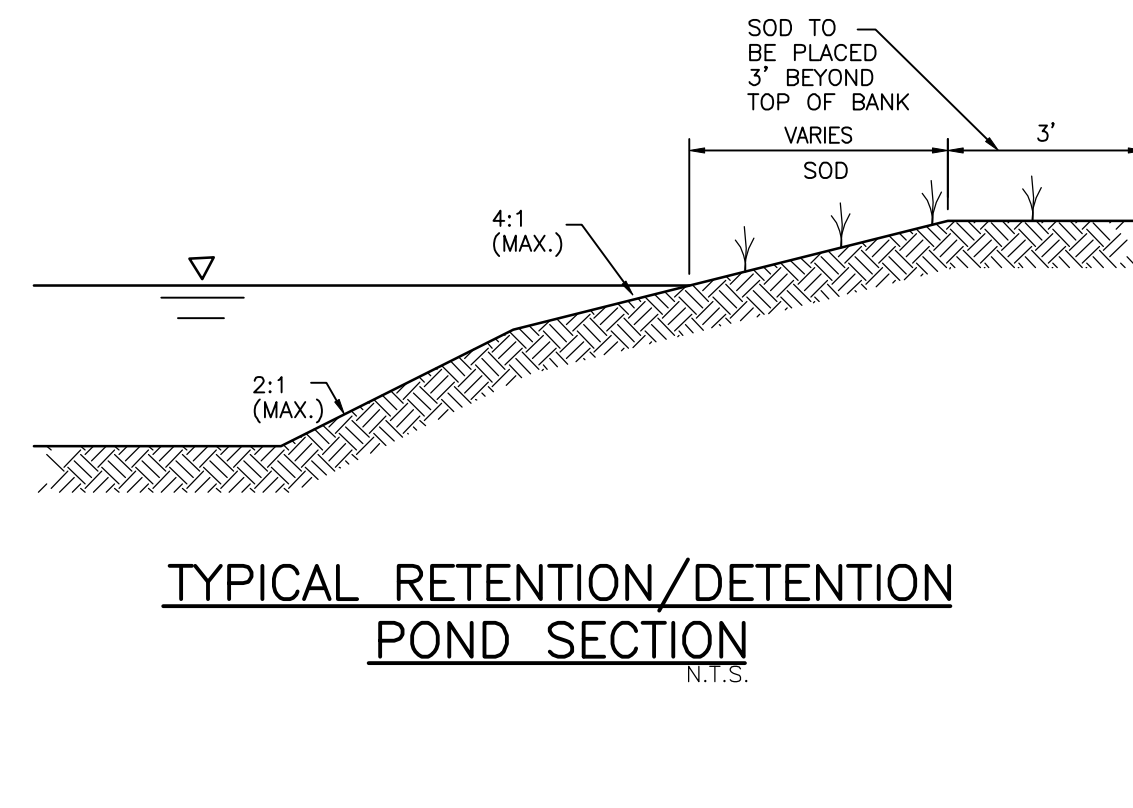

FIGURE 6
- 5 SOD POND TOP OF BANK (AS PER BEST MANAGEMENT PRACTICES DETAILS, FIGURE 6)